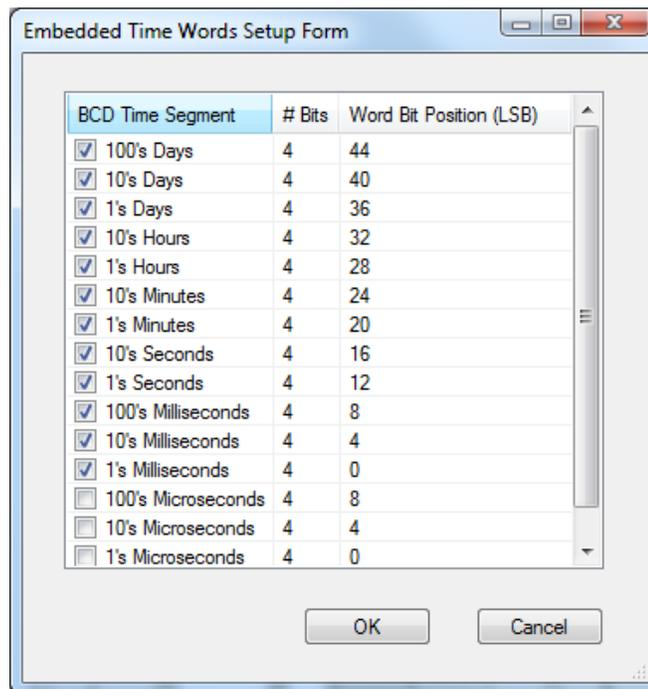

Figure 133 – Embedded Time Word Setup
4. Open the embedded time word setup screen by clicking the **Setup** button. The embedded time words setup form will be displayed. (See Figure 133 – Embedded Time Word Setup.)